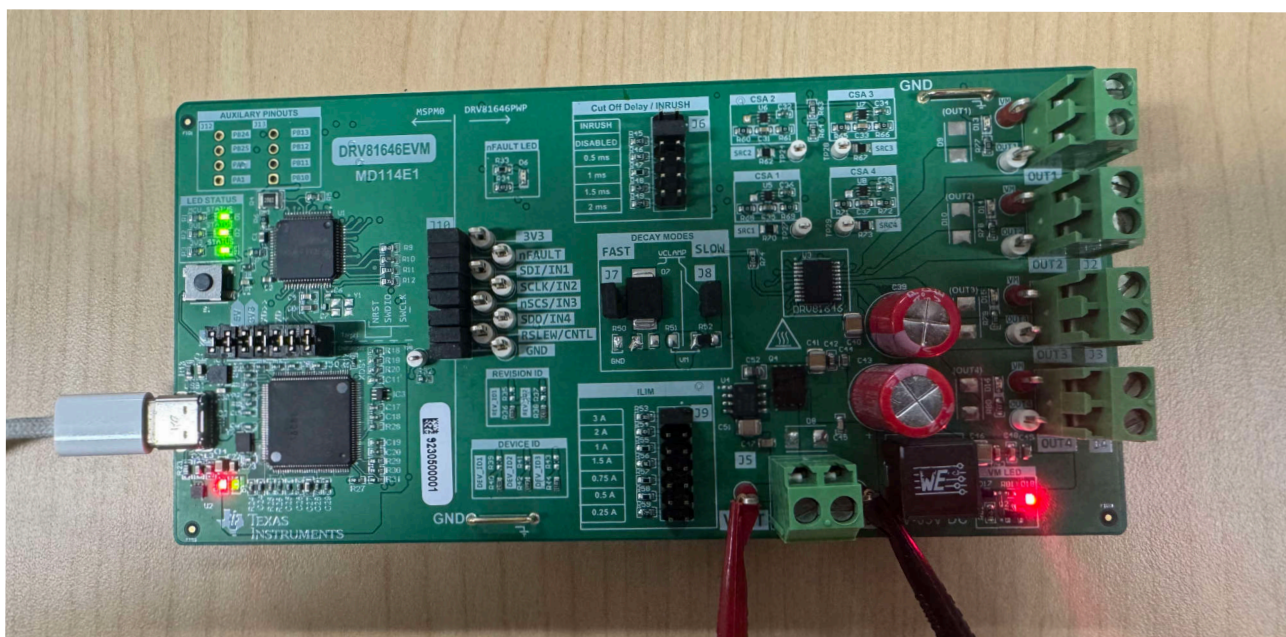

Figure 2-6. Hardware Setup
3. Turn ON power supply. LED D18 (VM) turns ON. See Figure 2-6 for setup image. The EVM is designed with built-in reverse polarity protection to prevent damage from incorrect power supply connections. If the LED D18 indicator fails to illuminate, ensure that the power supply polarity connection is correctly configured.
5. Set up is now complete. See Figure 2-6 for setup image.